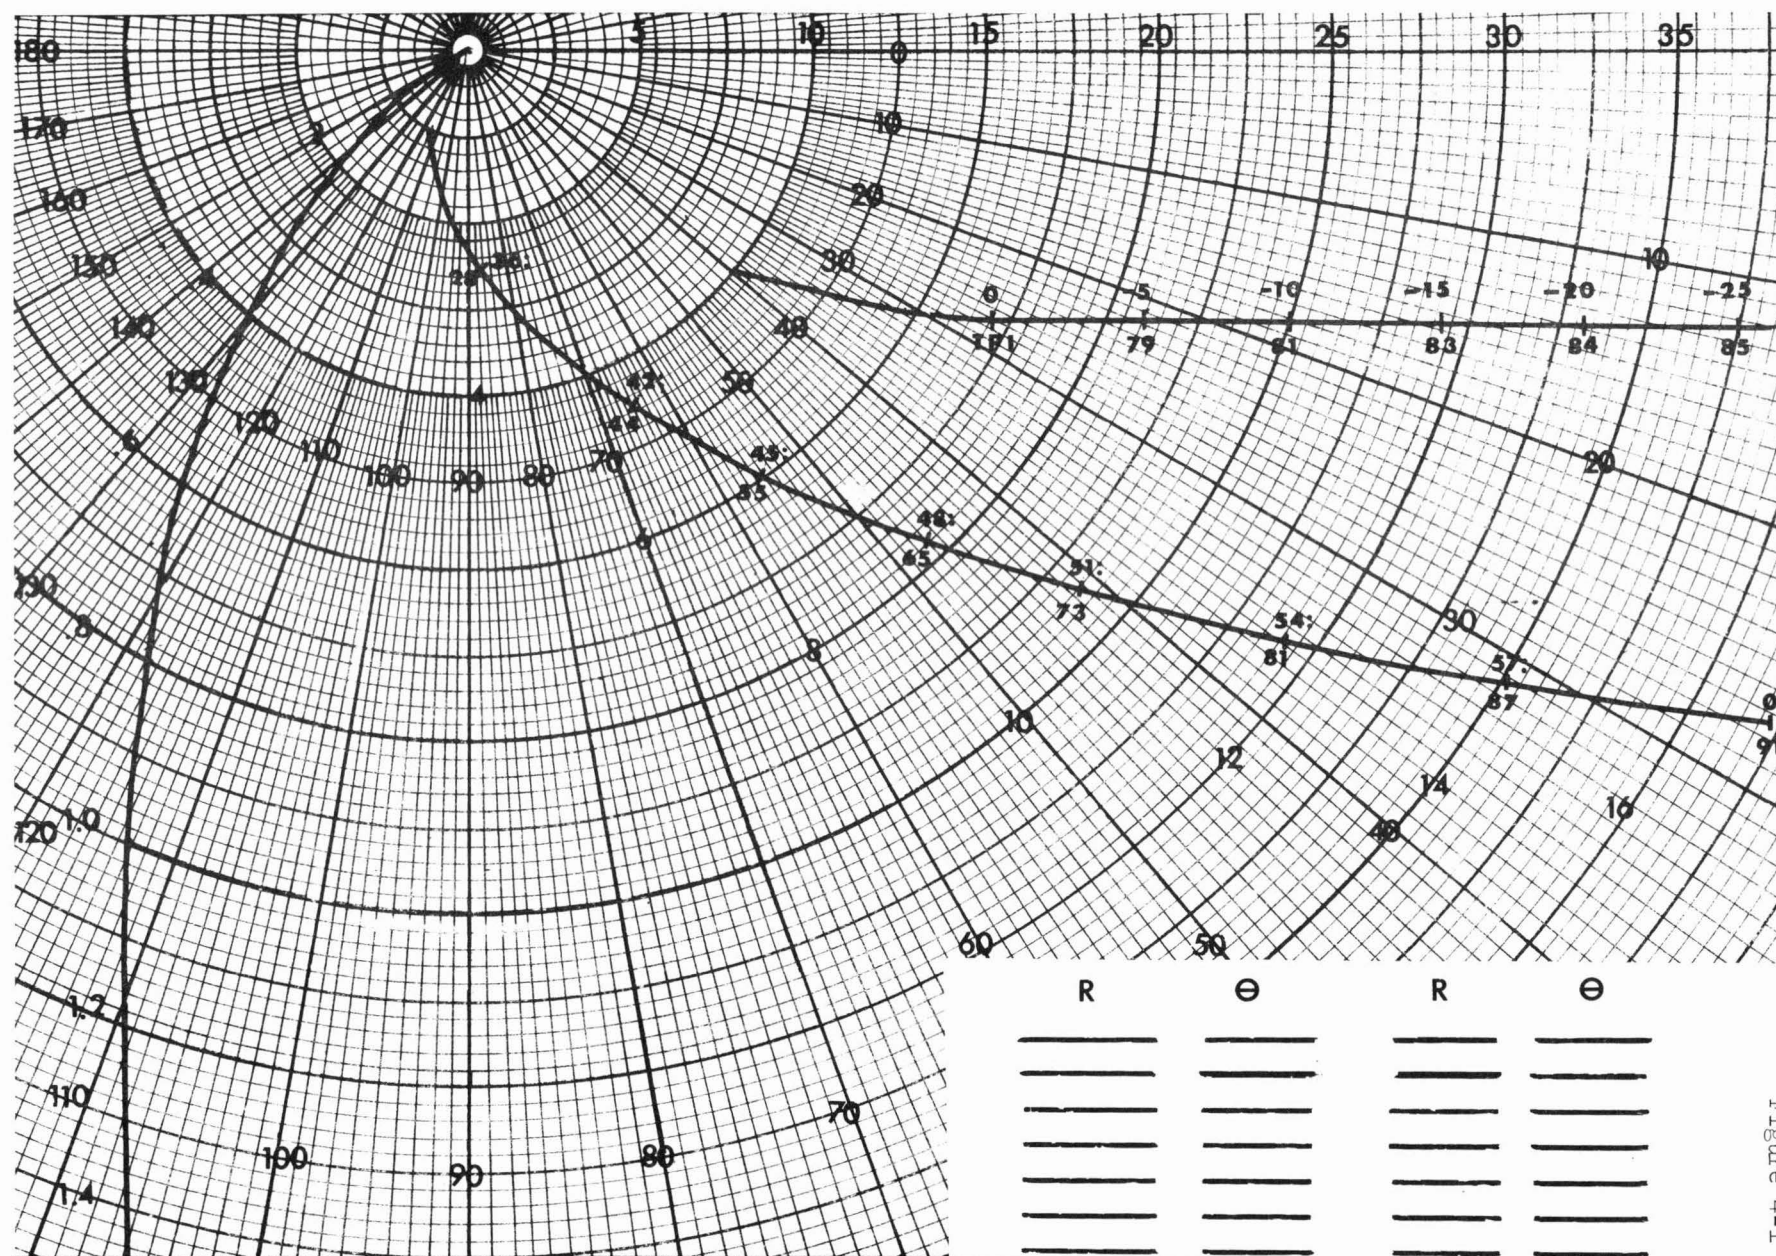
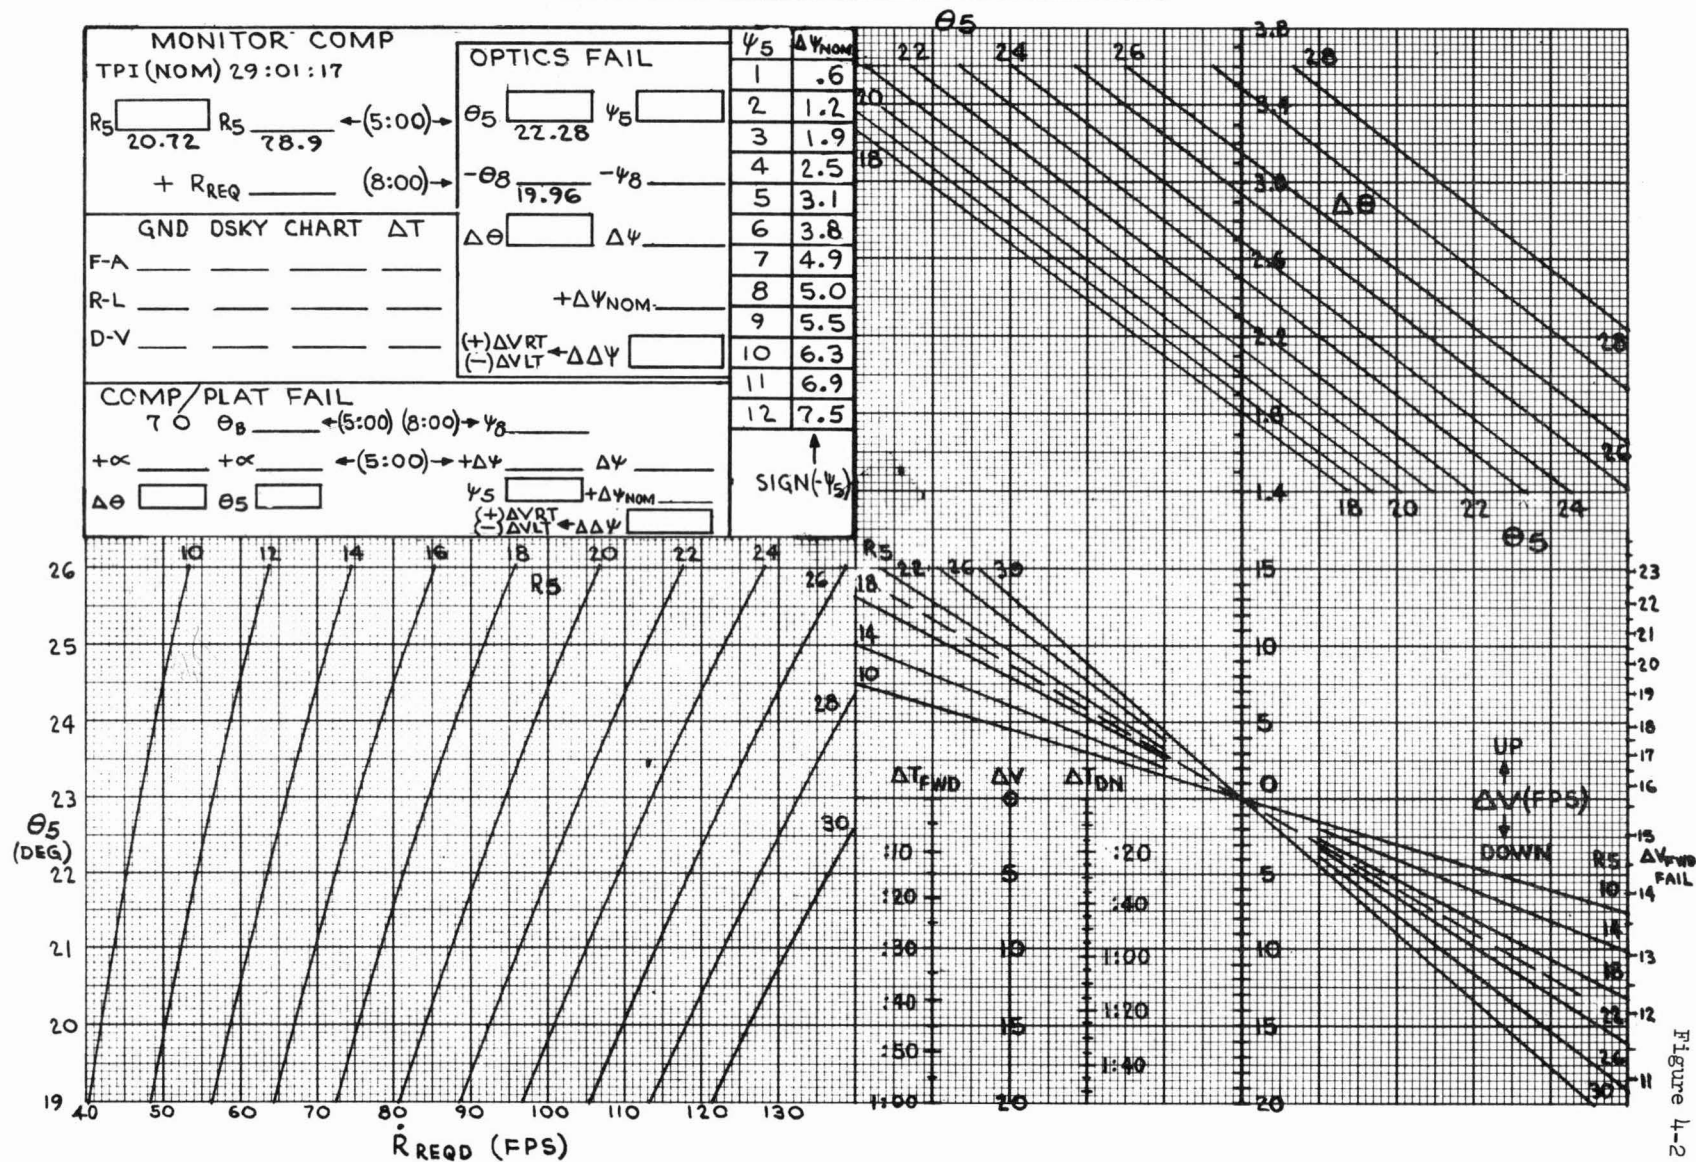

Figure 4-1
Figure 4-2
The NCC1, NCC2, and NSR maneuvers will be targeted by the MSFN and can not be determined onboard. Monitoring for these maneuvers therefore consists of observing the SPS start sequence attitude errors, attitude rates, and other parameters and manual backup of engine shutdown using the EMS ΔV counter. If PNGS fails to start the SPS, the SCS will be used. Subsequent to NSR, range and target elevation data will be called as time permits by the CSM pilot in the LEB calling V85 with the SXT boresighted on the SIVB. The data will be plotted by the LM Pilot on the SIVB centered relative motion graph shown in Figure 4.1. This information will be valuable to determine qualitatively the ellipticity of the CSM orbit, TPI arrival time, magnitude of TPI maneuver, and approach angle. PNGS targeting of the TPI and midcourse maneuvers will be monitored by the use of the flight charts shown as Figures 4-2, 4-3, and 4-4. These charts will be used to determine maneuver components along the line of sight to the SIVB, normal to the line of sight inplane, and out of plane. The TPI chart will be used in the monitoring mode as follows:
- (b) At TPI-8 minutes, with the COAS boresighted on the SIVB, elevation angle and yaw gimbal angle from V85 and N90 respectively will be recorded. These angles will be recorded by the LM pilot, on Figure 4-1 in the block labeled "OPTICS FAIL" in the spaces next to θ_8 and ψ_8 .
(d) With θ_5 and R_5 as inputs the lower left graph in Figure 4-2 will be used to read $\dot{R}_{REQ}$ which will be logged in the space provided below $\dot{R}_5$.
The method for determining the TPI maneuver will be as follows: After NSR the SCS pulse mode will be selected and the commander will control attitude to maintain wings level and boresight the COAS on the SIVB. The event timer will be set to 52 minutes and holding, awaiting the start of the TPI backup sequence. The CSM pilot will monitor elevation angle from V83 and when 20.0 degrees is reached, the event timer will be started counting up. This will establish the time of TPI and the measurements 5 and 8 minutes prior to the burn. Use of the TPI chart (Figure 4-2) will be similar to that for monitoring as defined in section 4.1, except that range data will not be used. Rather the value of ΔV_{FWD} will be obtained from the right edge scale on the lower right graph of Figure 4-2.
- (c) At this time the control will be switched to SCS attitude hold, and FDAI yaw angle will be recorded on Figure 4-2 in the space labeled ψ_8 which is located in the box labeled COMP/PLAT FAIL.
- (f) The graphs on the right side of Figure 4-2 will be used as described in section 4.2 to determine the TPI maneuver components along and normal to the line of sight. Since no ΔV can be measured in the body Y and Z axes for this failure mode, the up/down and left/right components will be converted to burn time using the scales at the bottom of Figure 4-2. The forward component will be loaded into the